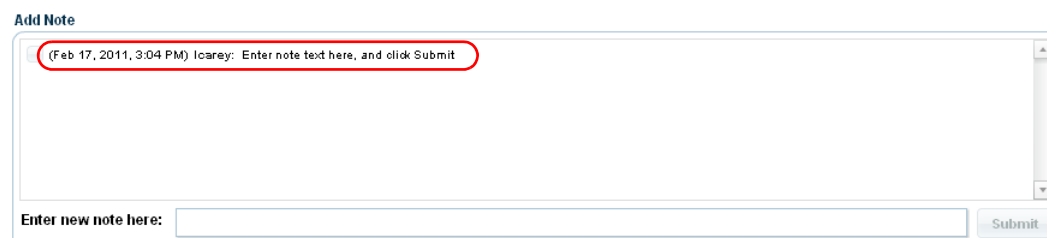

FIG. 268 Add Note window indicating a note for the selected Asset Log
- The note is displayed in the *Add Note* window (FIG. 268):